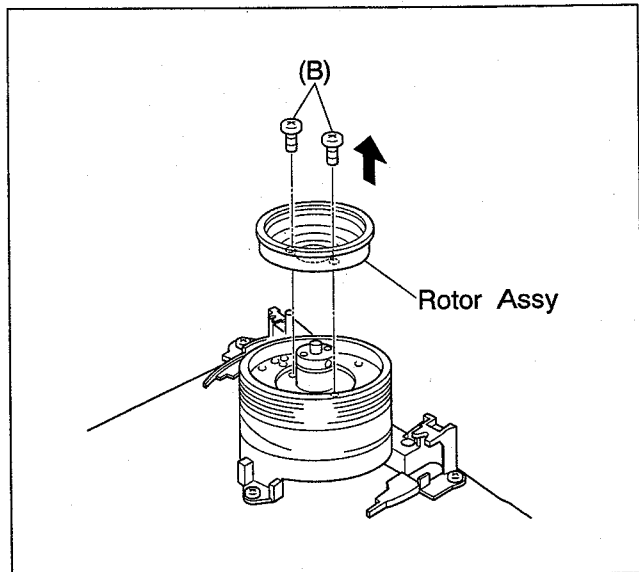

Fig. 2-5-23
- (4) Overlap holes (a) of the upper drum assy with holes (b) of the rotor assy (align holes in 3 locations) and secure with 2 screws (B) as indicated in Fig.2-5-23.